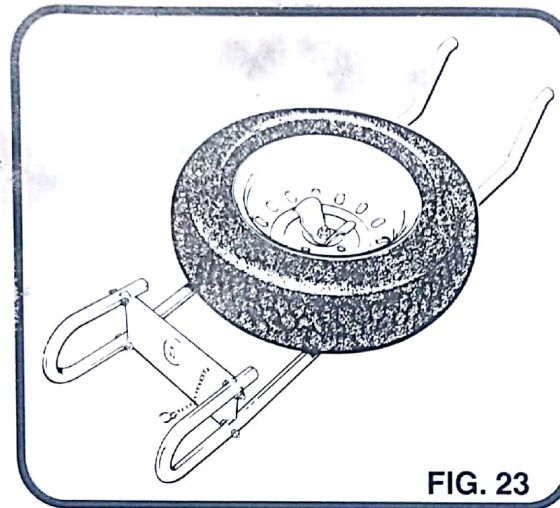

FIG. 23
1.6 Wheels and Tyres (Fig. 23)
Each AL-KO caravan chassis has a set of punched holes immediately behind the axle to enable fitting of an AL-KO telescopic spare wheel carrier (Fig. 23).